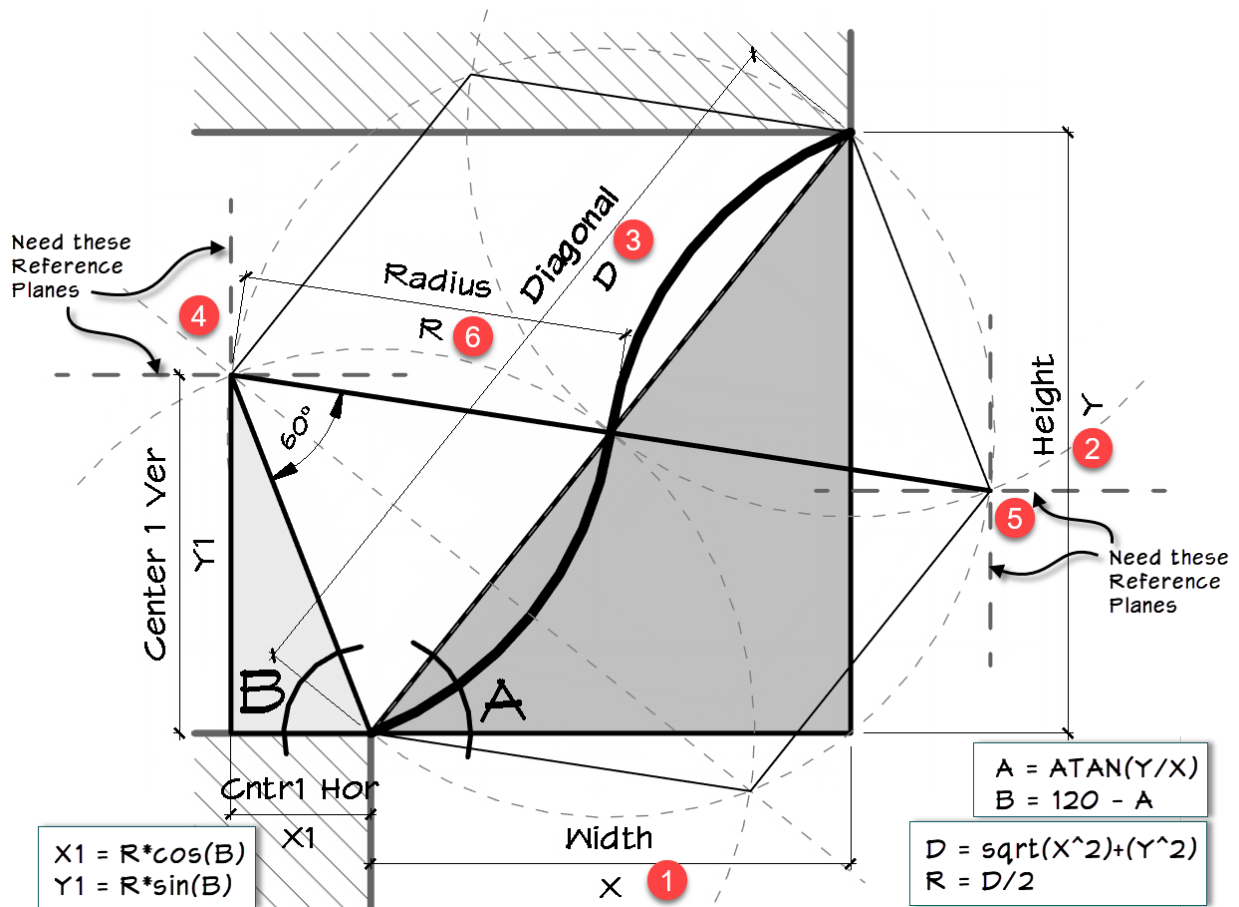

Figure 34—Applying trigonometry to locate the required Cyma reference planes
When looking for how to translate the traditional hand-drawn approach using a compass to something that would give us solvable triangles and yield the reference plane locations in Revit, I made a happy discovery. It just so happens that this construct also creates a regular hexagon whose vertices intersect the circle at the same locations as the intersecting arcs—compare the gray dashed construction arcs with the superimposed hexagon (see Figure 34).
The basic idea is that the user input is the Height (Y) and Width (X) (items 1 and 2 in Figure 34). This is used to determine the angle of the diagonal (D) (item 3) which is in turn used to locate the center point of the two arcs of the compound curve (items 4 and 5) and their radii (item 6). We'll start with a file similar to the ovolo example above.